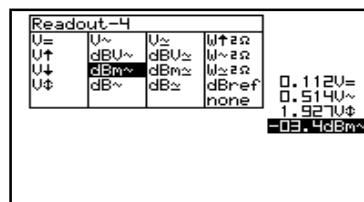

Fig 24
8. Press the cursorkeys to highlight the desired readout function for meter 4 readout. (Fig. 24)